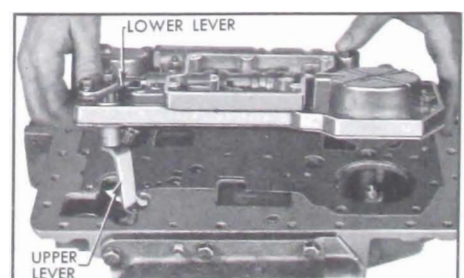

Figure 5-34—Removing Valve and Servo Body Assembly
8. Lightly pry upward on the assembly to free the gasket between servo body and transmission case. Push shift control valve and lower operating lever inward to align the lower lever with opening in transmission case, then remove the assembly. See Figure 5-34.